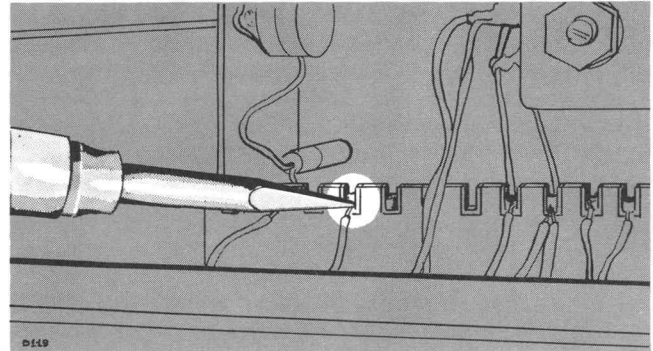

Fig. 5-3. Correct method of applying heat in soldering to a ceramic strip.
4. Apply one corner of the tip to the notch where you wish to solder (see Fig. 5-3).